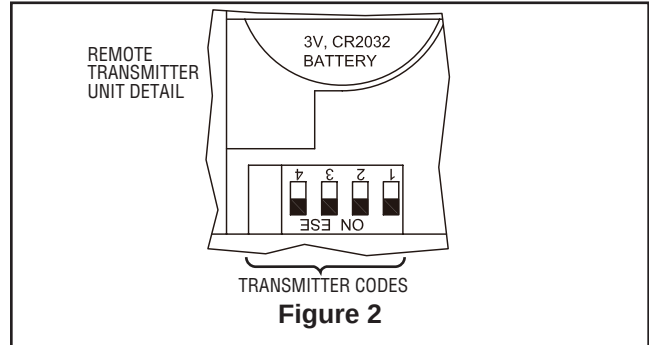

Figure 2
- ☐ 1. To set the transmitter code, remove battery cover by pressing firmly below arrow and sliding cover off. Slide code switches to your choice of up or down position. Factory setting is all up. Do not use this position. With a small screwdriver or ball point pen slide firmly up or down. Replace battery cover on the transmitter (Figure 2).